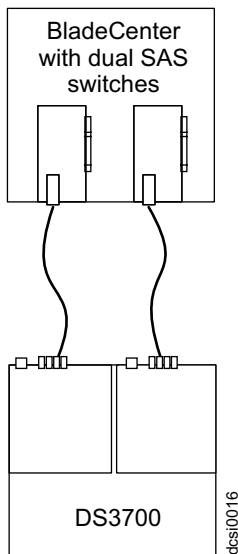

Figure 44. Example of DCS3700 connected to a single BladeCenter unit
2. To create a redundant host connection, connect a SAS cable from a second SAS connectivity module to a host connector on the other controller in the DCS3700. You can only create up to two redundant host connections in a dual-controller DCS3700, one connection each from the blade center to the DCS3700 controller host port as shown in Figure 44 on page 70.